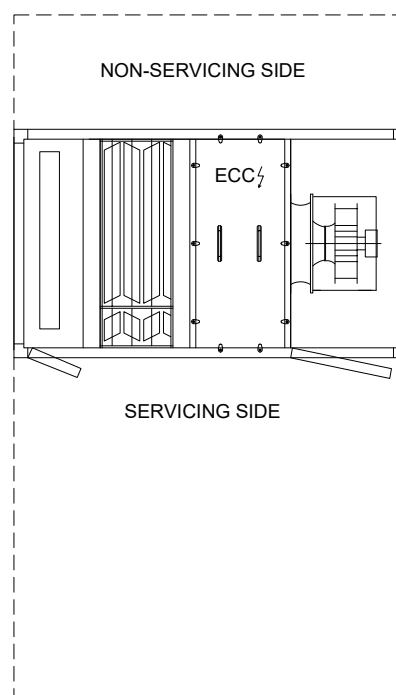

Figure 8
- To facilitate the assembly, a clearance area of a minimum width of 0.5 m should be provided on the non-servicing side as well (Figure 8).